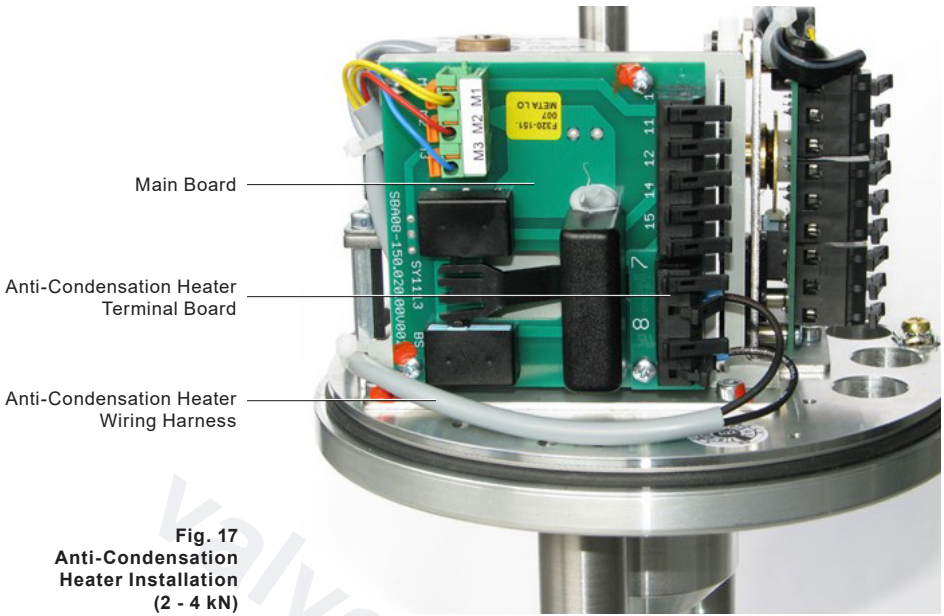

**Fig. 15**
- Refer to Figures 15 to 20 "Heater Installation 1 - 6 kN" for product orientation and fix the anti-condensation terminal board to the main board with the screws supplied